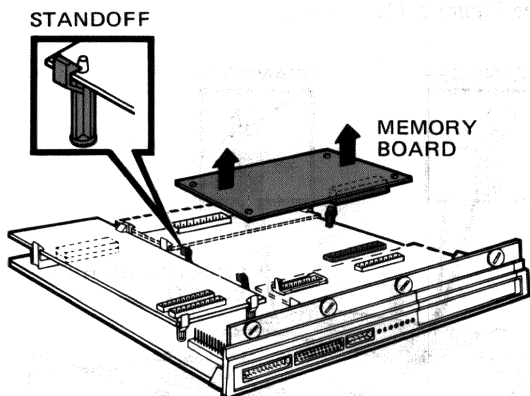

Figure 5-10 Memory Board Removal
2. Push the top of the three standoffs aside and lift the memory board off of the system module. See Figure 5-10.